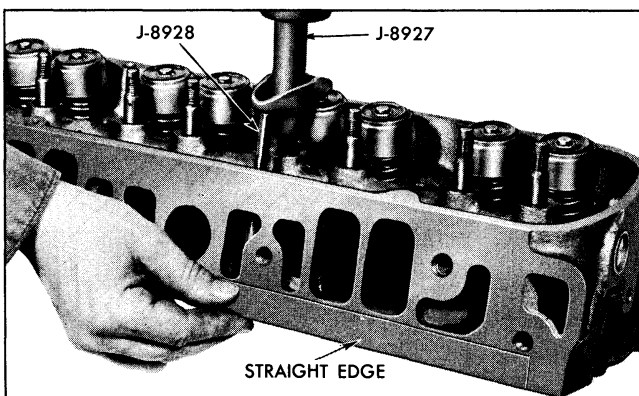

Fig. 6-36 Pressing in New Rocker Arm Stud
9. Coat rocker arm stud with white lead and oil and with cylinder head mounted in press on tool J-5712 so studs are vertical, position new stud with rocker arm and rocker arm stud installer over hole in head (Fig. 6-36).
11. Clamp straight edge on cylinder head as shown in Fig. 6-36 and position valve train gauge J-8928 in push rod hole so that it seats properly in the rocker arm.